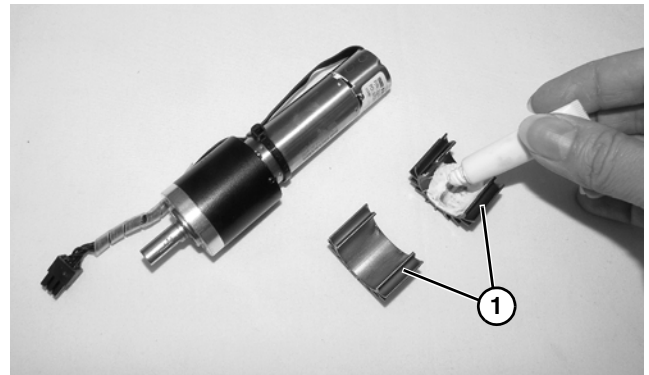

Figure 78
11. Add heat sink compound to heat sinks (**Figure 78, item 1**) before reinstalling to motor.